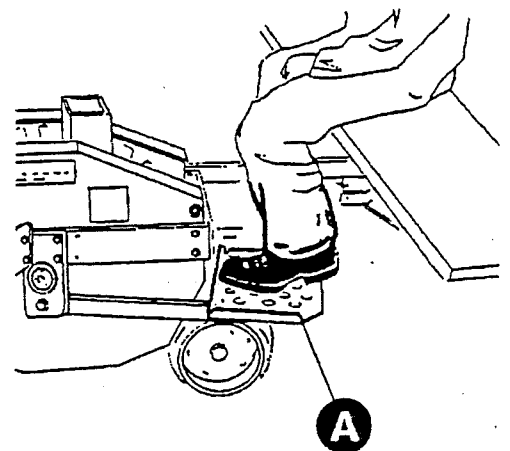

FIG. 4
8.11 - The operators must take position on their respective seats and place their feet on the foot-rests (fig. 4.A) **only when the tractor is stationary and chocked and the machine is on the ground.**